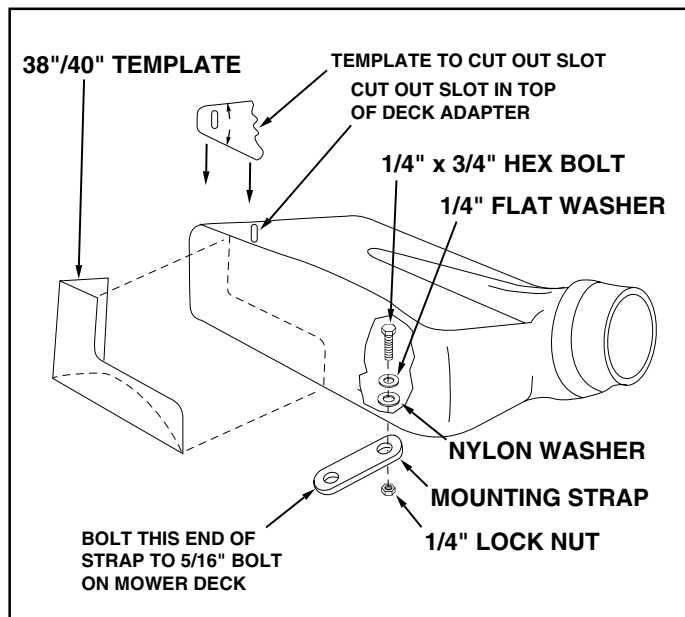

FIGURE 27
2. Bolt end of mounting strap to the 5/16" bolt on the mower deck. The other end of the strap will bolt to a hole in the deck adapter, which must be drilled. Position the adapter on the deck, then drill a 5/16" hole in the bottom of the adapter that will align with the hole in the strap. Fasten the adapter to the strap using one 1/4" x 3/4" hex bolt, 1/4" flat washer, nylon washer and 1/4" hex lock nut. See figure 27.